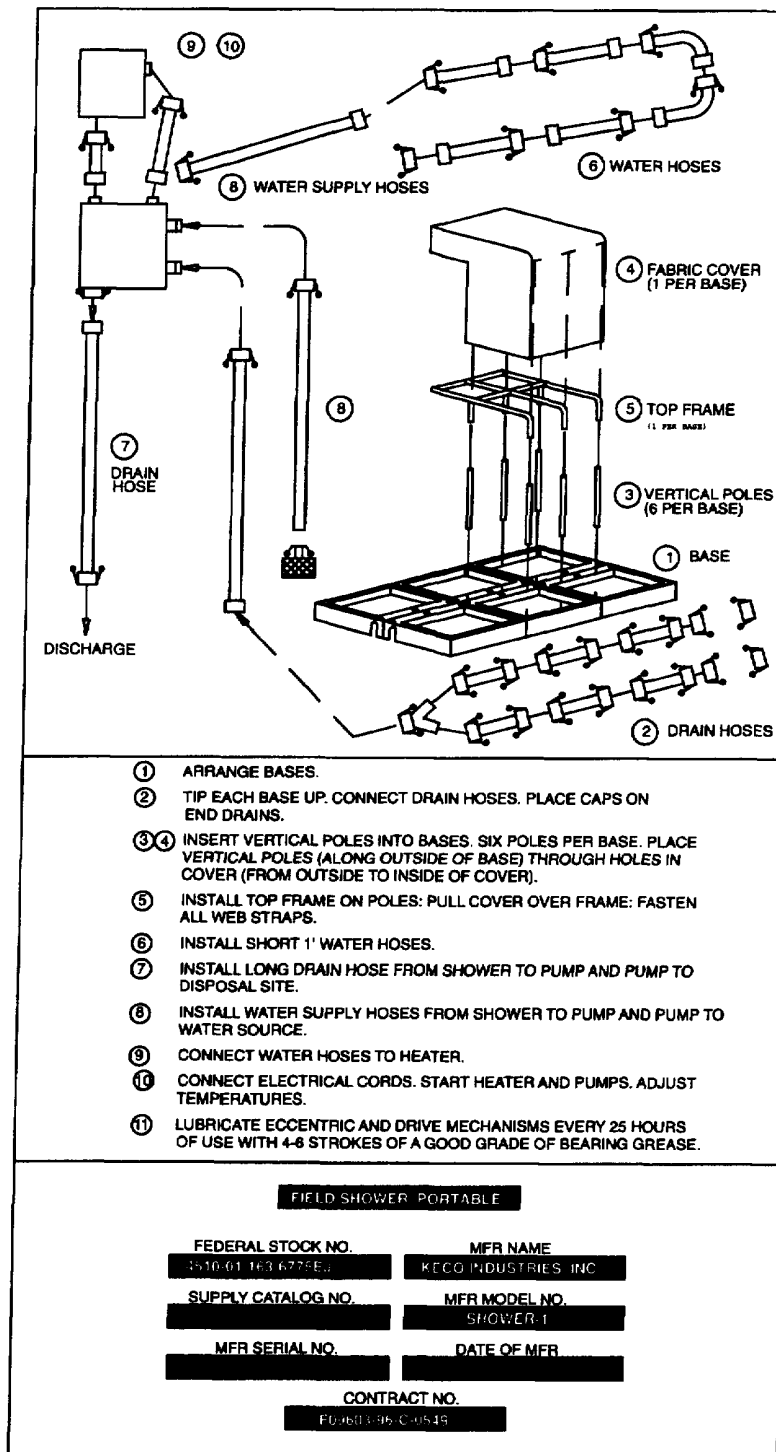

Figure 1-3. Identification Plate
1.11. IDENTIFICATION AND DATA PLATE. Refer to figure 1-3.